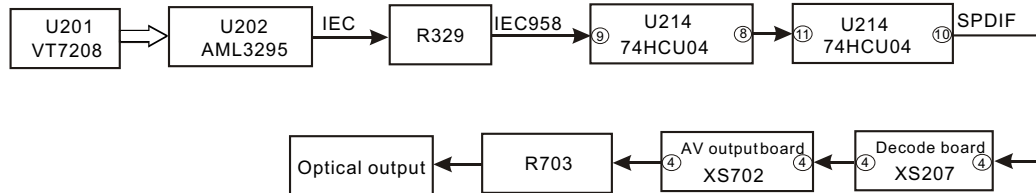

Figure 3.1.2.2 Optical output flow chart
3. Video signal output flow is shown as the following figure 3.1.2.3: